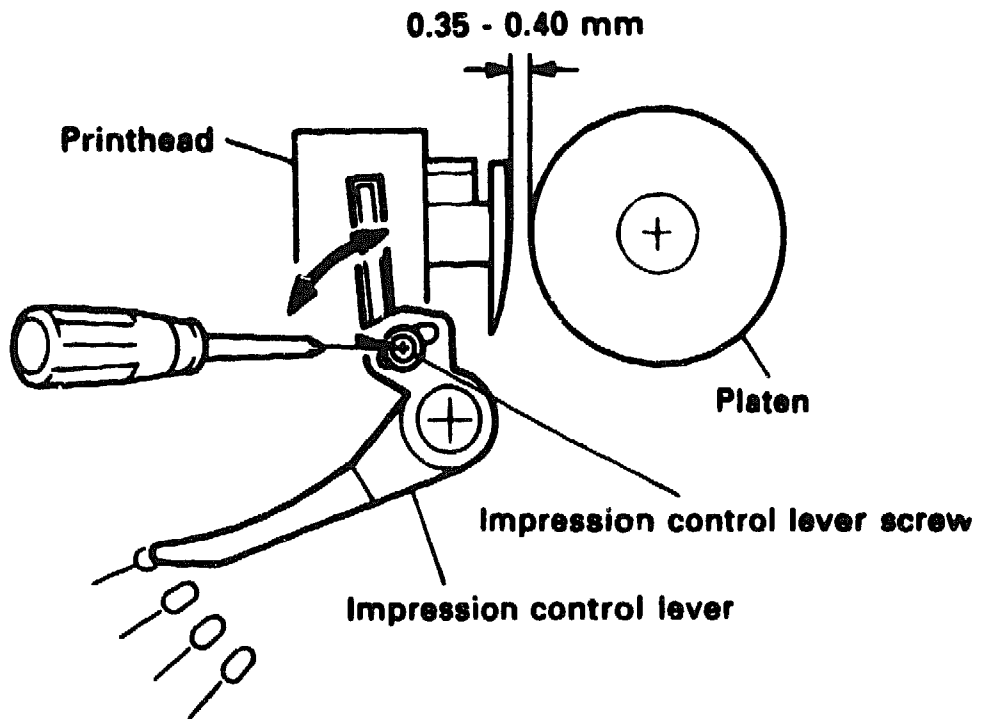

Figure 6-7 Adjusting the Printhead Gap
2. If the gap is not 0.35 - 0.40 mm, loosen the impression control lever screw and adjust the gap by moving the arm up and down (Figure 6-7).